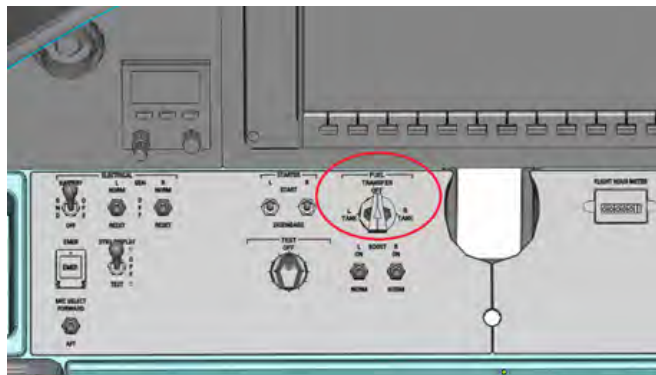

Figure 2
There is one transfer valve installed on the airplane accompanied with a selector switch within the cockpit on the Captain's side of the tilt panel (Figure 2 of this section). If a fuel imbalance is present by more than 200lbs, an amber "FUEL IMBALANCE" displays on both Primary Flight Displays (PFDs). When the fuel transfer is being used, a white CAS message will appear on both PFDs for crew alerting stating "FUEL TRANSFER". During the fuel transfer function, the same white CAS message will turn amber when the amount of fuel transferred causes another imbalance of 60lbs or more. Amber "FUEL TRANSFER" is also visible if the transfer has been selected ON L-R longer than 600 seconds.
- Rotate selector to desired wing to transfer fuel to. Reference Figure 2 of this section.